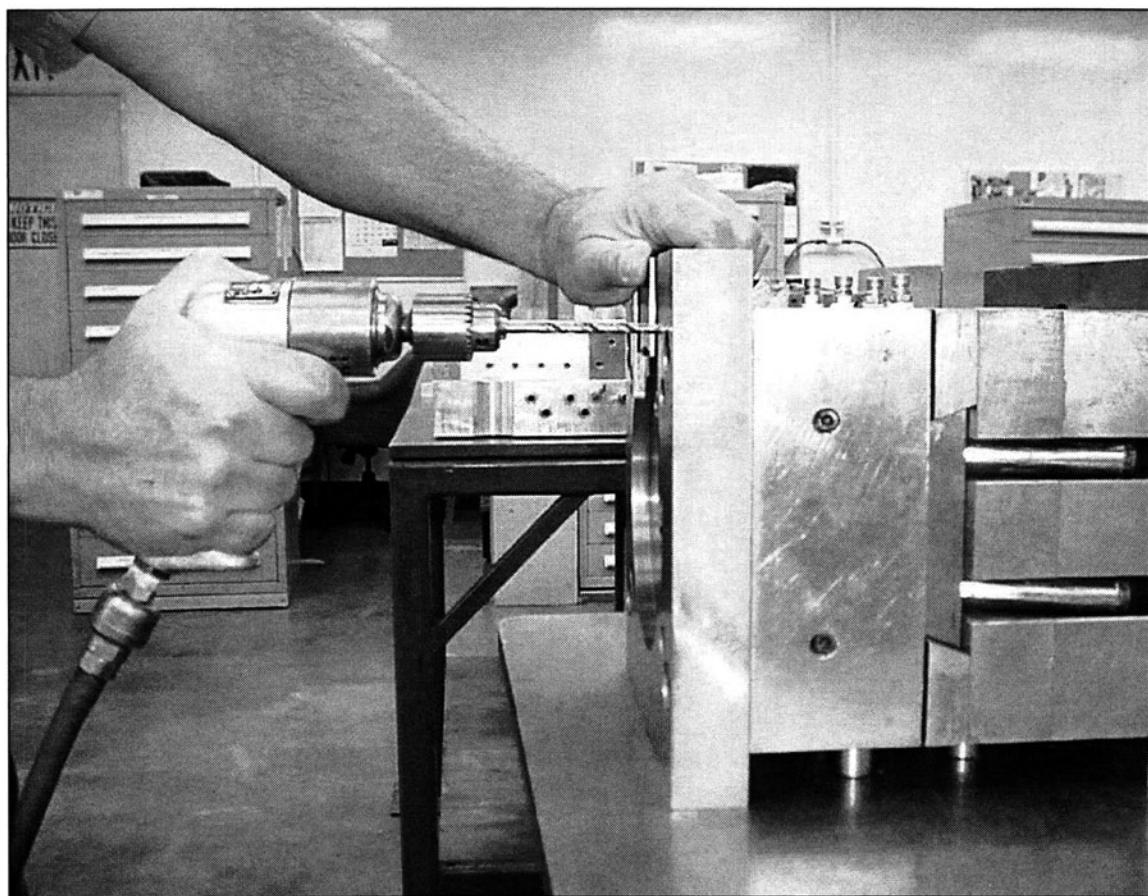

FIGURE 3-20 A perpendicular hole is hand drilled with the help of a spotter.
25. Hand drill a perpendicular hole. (See fig 3-20)